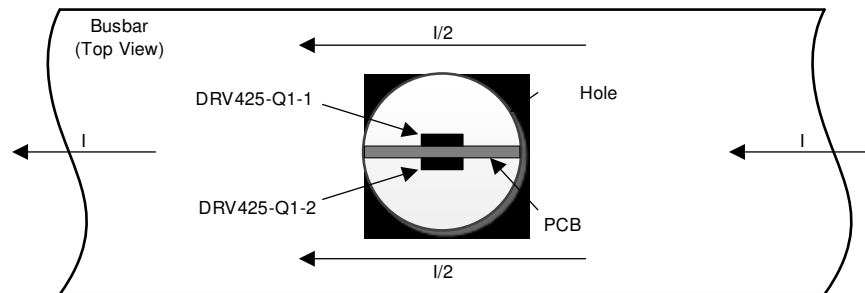
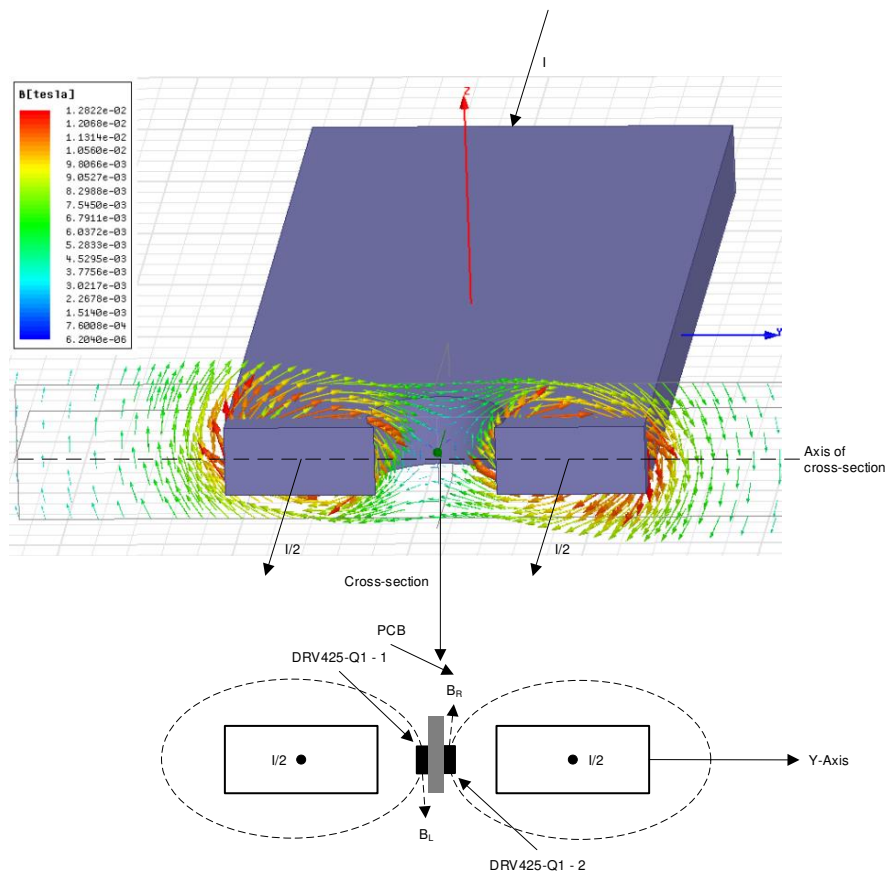

图 71. Current Sensing in Busbars
图 72. Magnetic Field Distribution Inside a Busbar Hole
图 71 shows an alternative approach with two DRV425-Q1 devices. If a hole is drilled in the middle of the busbar, the current is split in two equal parts that generate magnetic field gradients with opposite directions inside the hole. These magnetic fields are termed  $B_R$  and  $B_L$  in 图 72. The opposite fields cancel each other out in the middle of the hole. The high sensitivity and linearity of two DRV425-Q1 devices positioned at the same distance from the middle of the hole allow the small opposite fields to be sensed and the current measured with high-accuracy levels. The differential measurement rejects outside fields that generate a common-mode error that is subtracted at the output.
2. Apply current through the busbar and move the PCB along the y-axis in the busbar hole, as shown in 图 72. The PCB is in the center of the hole if  $V_{CM} = V_{OFFSET}$ .